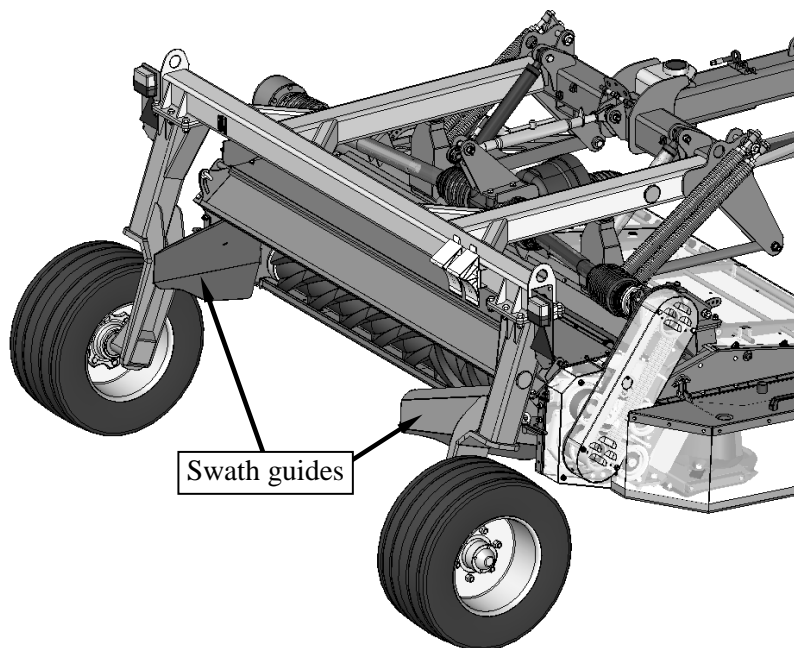

Fig. 11. Swath guides
- ❑ set the desired cutting width by folding guides back (**Fig. 11**) under proper angle,